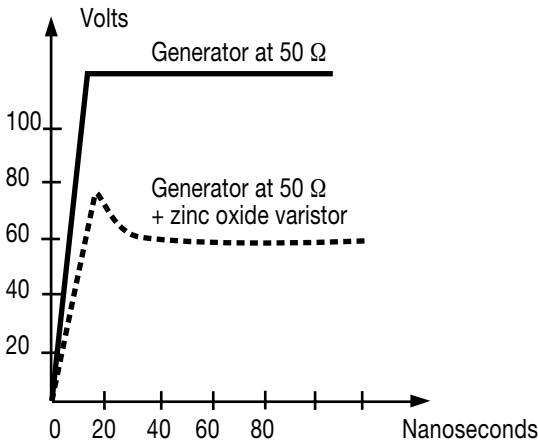

Figure 21
- Overshoot phenomenon occurring when the varistor is subjected to a voltage with a steep leading edge (Figure 21) and causing a dynamic voltage peak greater than the static voltage by a few percent.